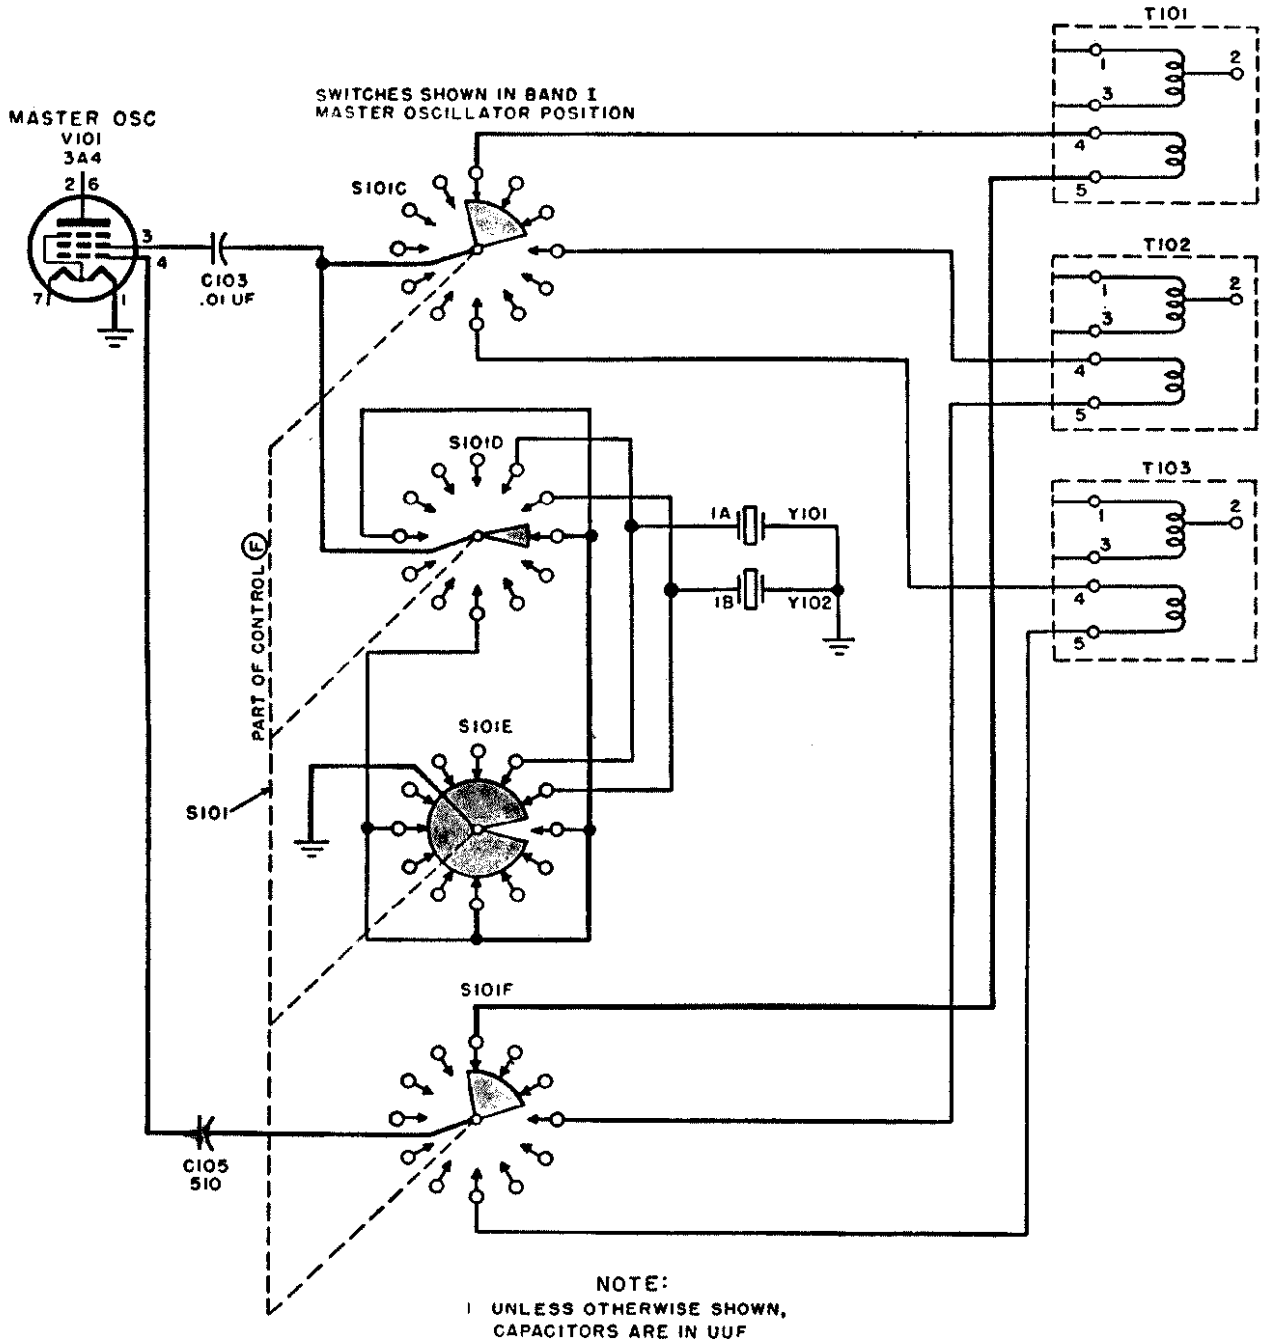

Figure 69. Master oscillator switch sections S101C, D, E, and F.
- (3) S101C (fig. 69). Section C of S101 selects the proper grid circuit coil for the frequency selected. This is done in conjunction with switches S101D, S101E, and S101F which connect the coil selected to the grid by capacitor C105. Since the entire bank of switches is ganged, the grid coil is automatically connected to the grid circuit. By following the weighted line, starting at the signal grid of V101, the entire grid circuit path may be traced through the various switches.
- (4) S101D. Section D of S101 selects, during crystal operation, the proper crystal to be used for the frequency desired. Section D also connects the grid coil to ground through section E, as shown in figure 69.
- (5) S101E. The rotor of section E is permanently connected to ground and serves as the actual ground connection for the coil selected. It also shorts out all or any crystals that are not in use.
- (6) S101F. Section F of S101 connects the selected coil to the grid of tube V101 through capacitor C105.